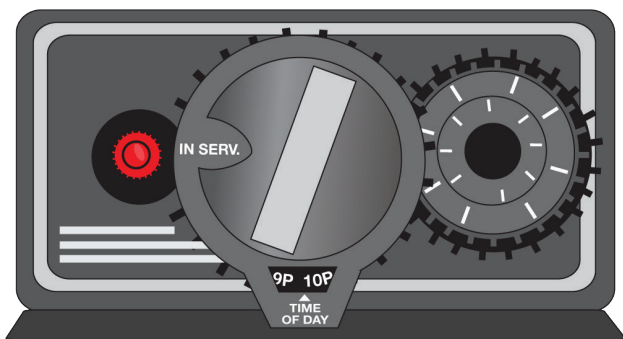

FIGURE 11 - IN SERVICE position
6. After the manual rinse cycle has been completed, turn the main dial on the filter unit to the **IN SERVICE** position [See Page 16, Figure 11]. Make sure the control lever is fully in the **IN SERVICE** position. Now, put the ScaleSolver outlet in the **IN SERVICE** position. Water will now be flowing through the whole Premier PowerPac to feed the house. **Remember to set the timer for self-cleaning to the current time of day.**